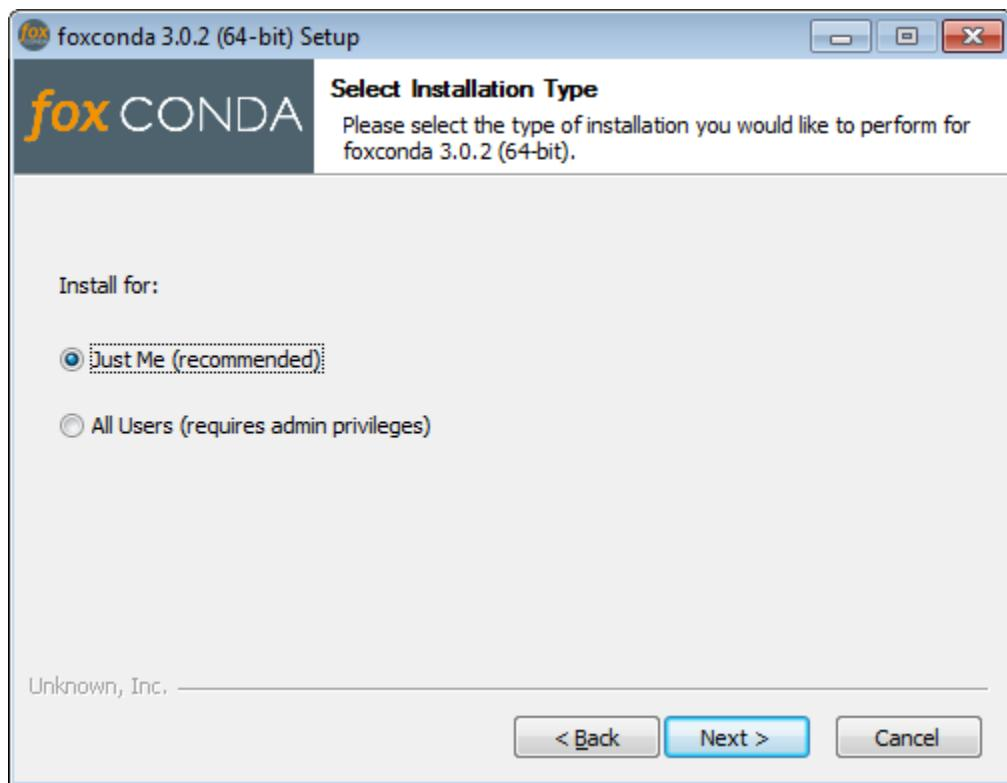

Fig. 9.3: Installation type of foxconda3
- Fig. 9.3 provides the choice of**